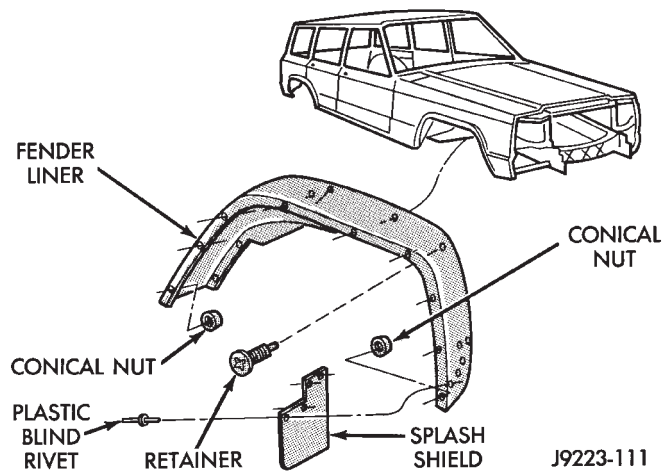

Fig. 51 Fender Liner and Retainers
- position the fender liner between the fender and fender inner panel (Fig. 51);